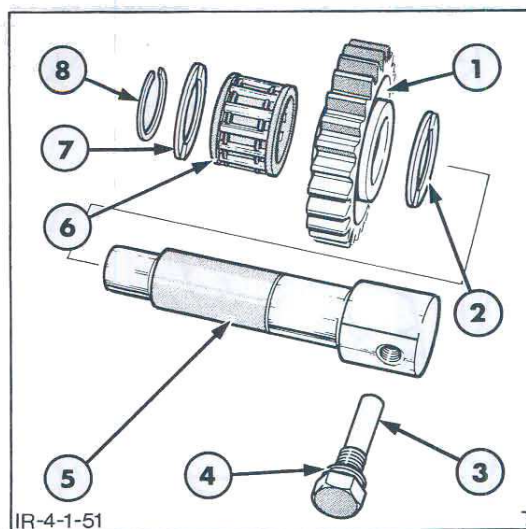

Figure 65
1. Install the reverse gear idler shaft into the transmission casing and assemble the component parts for the assembly in the following sequence with reference to Figures 65 and 66.